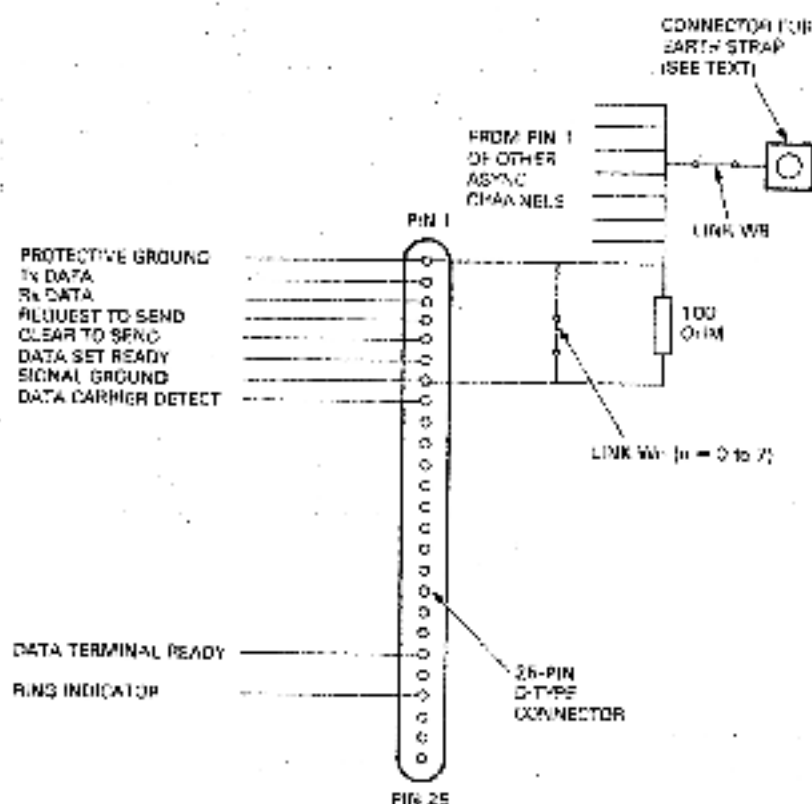

Figure 1-5 J0 to J7 Async Connector Detail
1.4.4.1 Asynchronous Interface – Connection to external equipment, for each of the eight async interfaces, is made via a 25-pin subminiature D-type connector. Figure 1-5 shows the pin configuration of the connector.